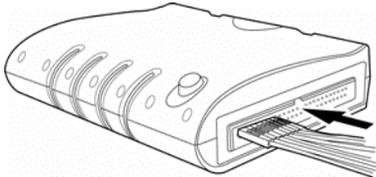

Fig. 2-17
1. Plug the fixed end of the cables into the LA(Fig.2-17).